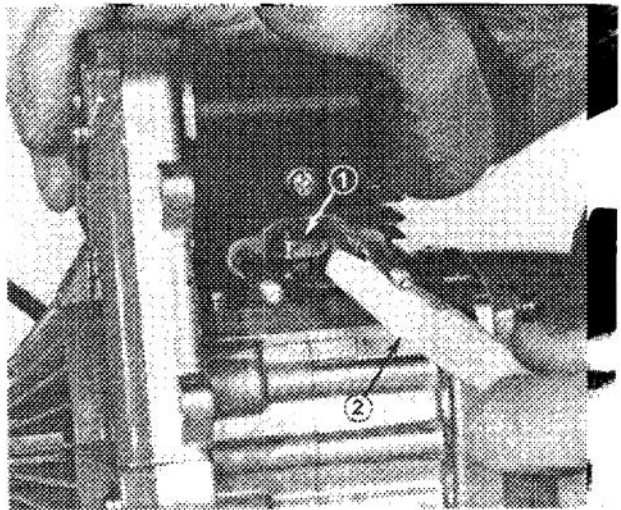

Figure 37
6. Rotate the engine crankshaft until the piston totally covers the exhaust port (Fig. 37). Clean the exhaust port area by using a clean, flat piece of hard wood (Fig. 37).